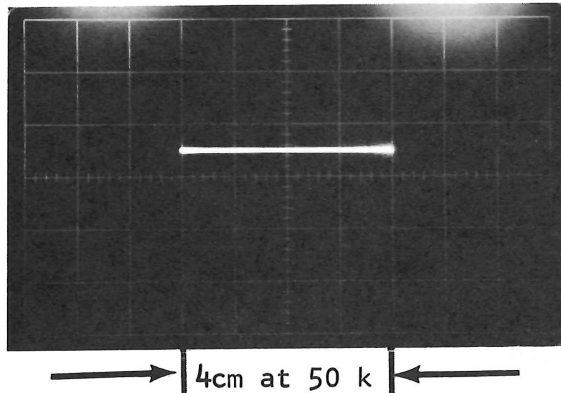

Figure 33
4. Set the generator frequency to 50 KC and output 190 amplitude to produce a four centimeter peak-to-peak horizontal deflection. See Figure 33.